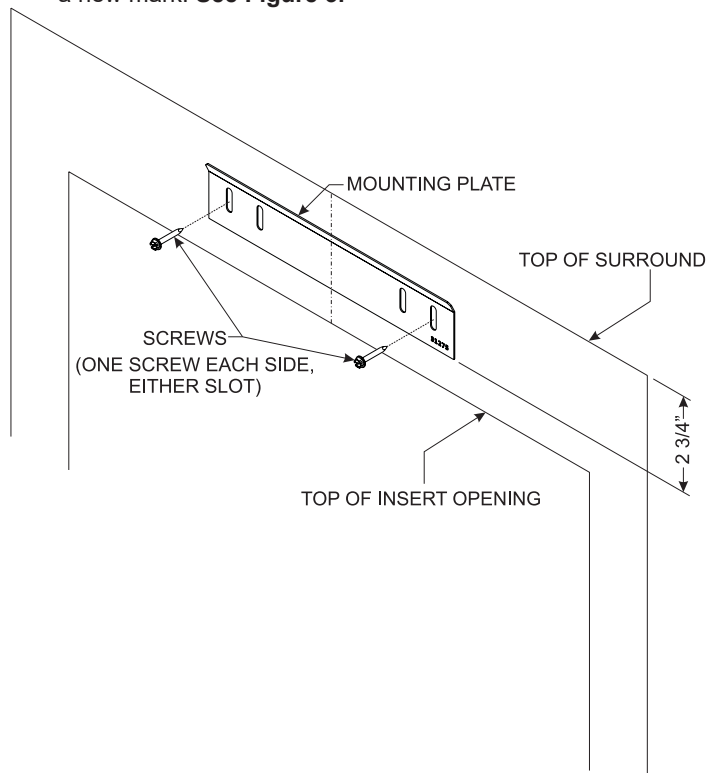

Figure 3
3. Measure 2-3/4" down from the mark made in step 2 and make a new mark. **See Figure 3.**